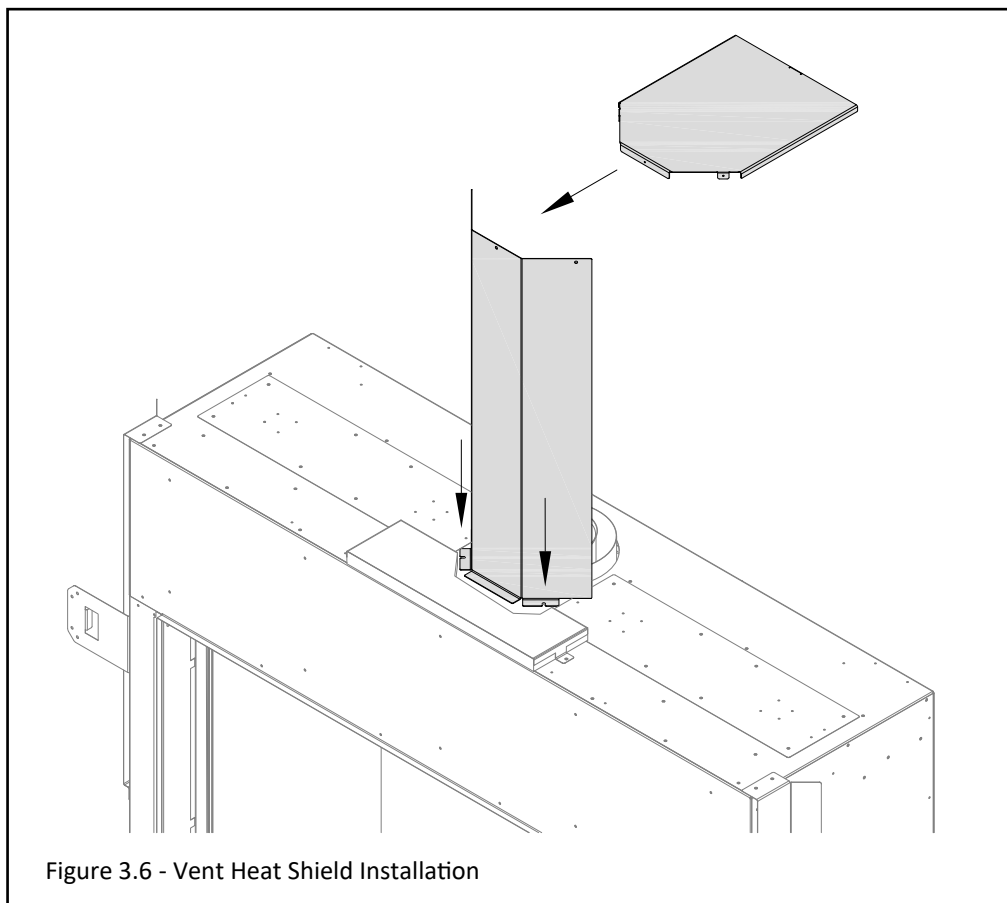

Figure 3.6 - Vent Heat Shield Installation
- When the vent pipe terminates at the ceiling of the fireplace enclosure you only use the front vertical vent heat shield as shown in Figure 3.6.
- When the vent pipe terminates at the wall at the minimum vent run use the front vertical and top horizontal vent heat shield as shown in Figure 3.6.